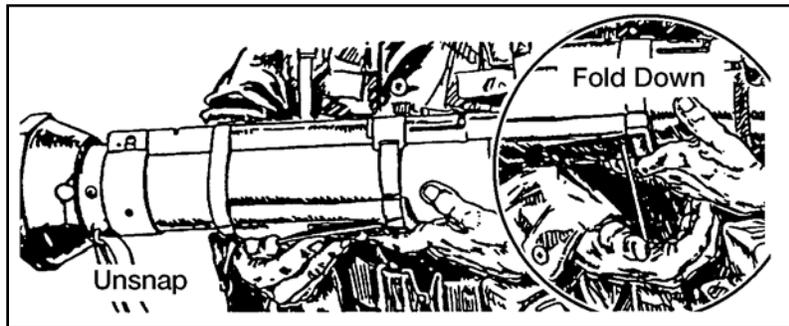

Figure 071-054-0001-4. Unsnapping the shoulder stop
- c. Unsnap and unfold the shoulder stop (figure 071-054-0001-4).